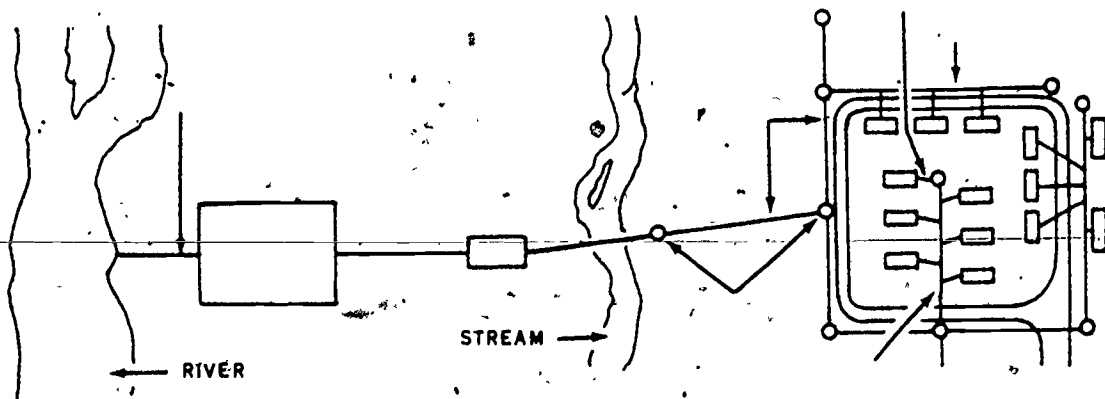

Figure 1-2. Exercise for exterior sewer system (objective 200, exercise 1).
**Exercise (200):**
1. Without referring back to the text, identify the components of an exterior sewer system, using the following code. Place the two letter codes in the space provided on figure 1-2.